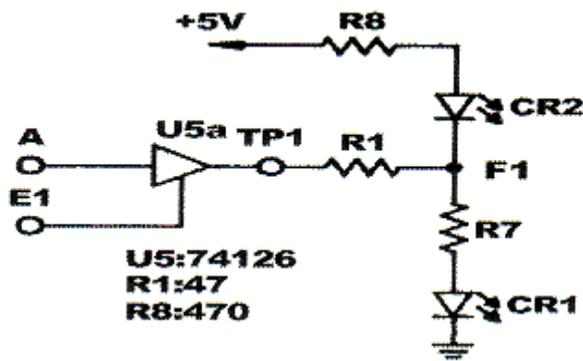

Fig. 2-32
5. Using a connection lead, connect F1 with T1 to construct the circuit of Fig. 2-32. Inputs A, E1 are still connected to SW0 and SW1. Follow the input sequences in Table 2-14, record output F1 and states of LEDs CR1, CR2. Record "1" if the LED is on and "0" if LED is off. (What happens if U6a is used instead?)